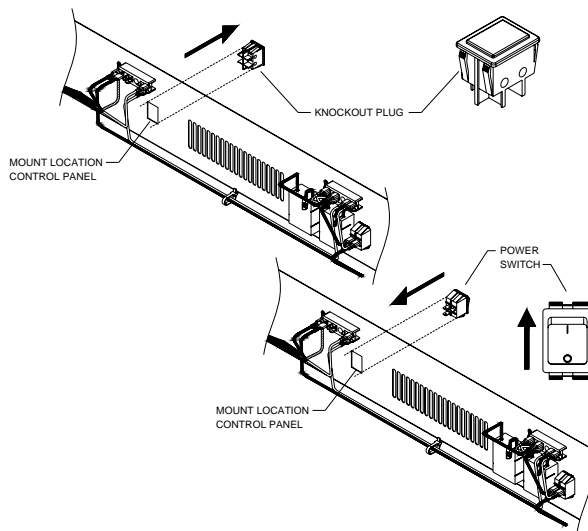

Figure 23 - Installing Heater Power Switch
11. Remove the control panel knockout plug located in the heater switch position by depressing the locking tabs and pushing the plug out through the front of the panel. See **Figure 23**.
12. Firmly insert the red power switch, provided, into the open mount location with the "ON" (I) indicator positioned on top.